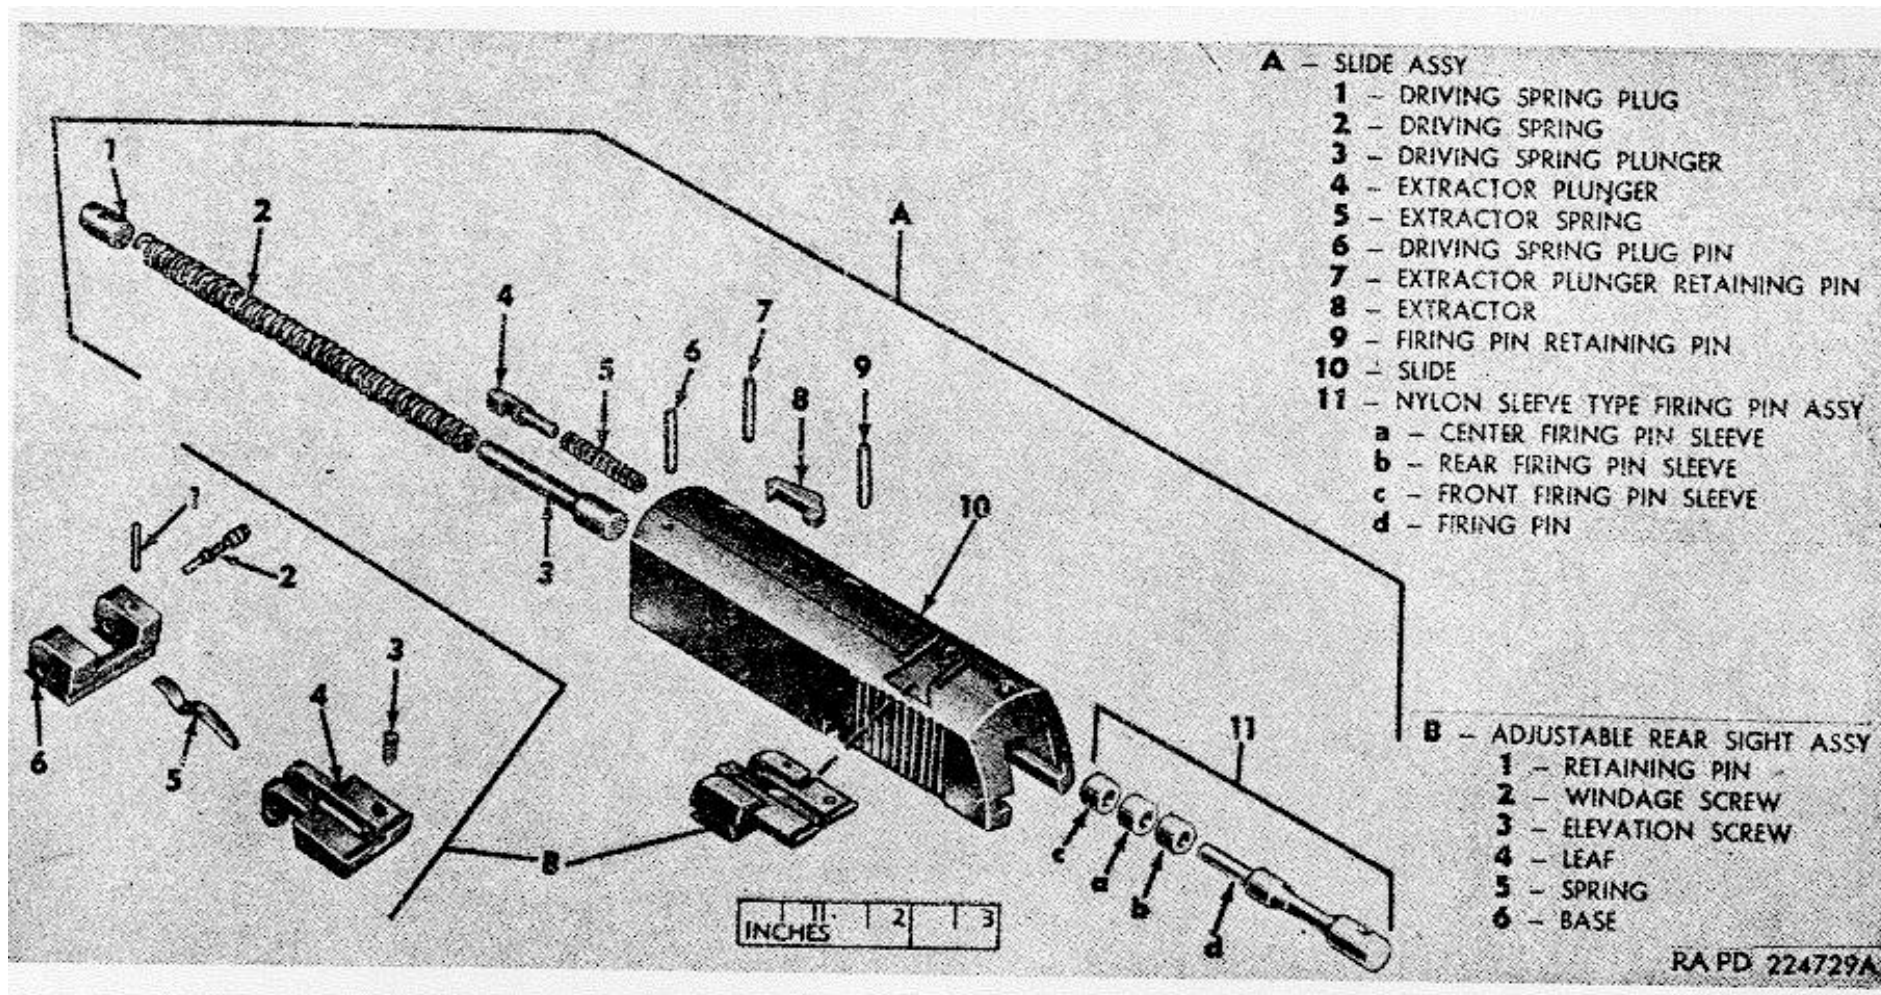

Figure 52. Slide assembly-exploded view (high standard).
a. *General.* The slide assembly (A) consists mainly of the driving spring group, adjustable rear sight assembly (B), extractor group, and firing pin group.
**Note.** The key letters shown below in parentheses refer to figure 52.